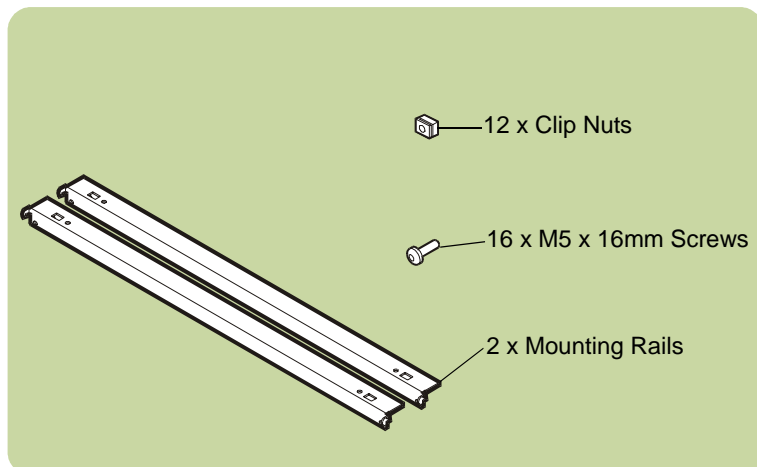

Fig. 21. HP Computer Cabinet Rail Kit Contents
1. Check the rail kit contents (see Fig. 21). If any parts are missing, call your nearest HP sales office.